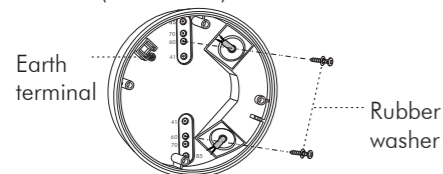

FIG.14
3.4.3.3 Choose proper knockouts to fix the junction box on the surface of ceiling board with 2pcs wood screws attached with rubber washer (See FIG.14).